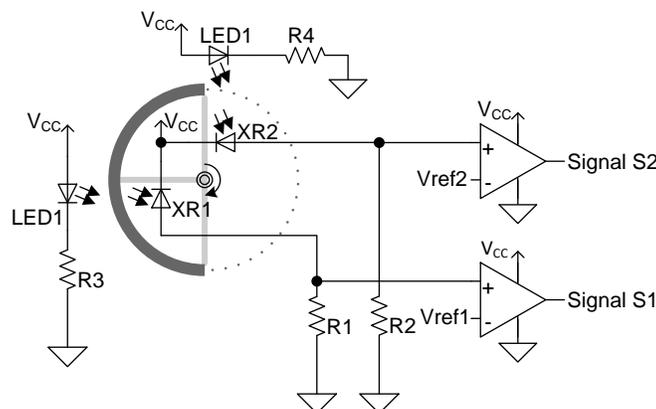

Figure 2. Example Schematic for Rotation Detection
Figure 2 shows the principle schematic. The system uses LEDs as its emitters. Opposite the emitters are the detector circuits (the photodiodes). Two comparators process the detector outputs and generate the output signals S1 and S2. The thresholds of the comparators are defined by the two reference voltages V_{ref1} and V_{ref2} .